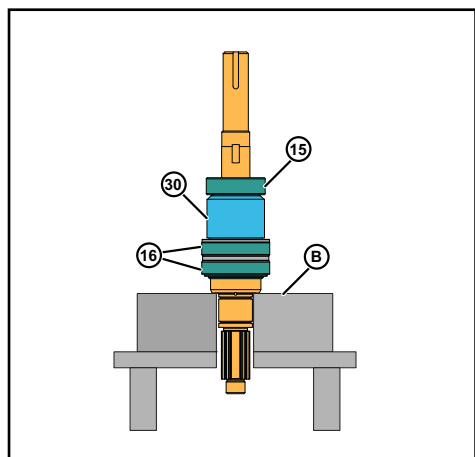

Figure 76 - Remove Bearings from Shaft
9. Use a hydraulic press and V-blocks (Figure 76, item B) to remove the bearings (items 15 and 16) and spacer (item 30)